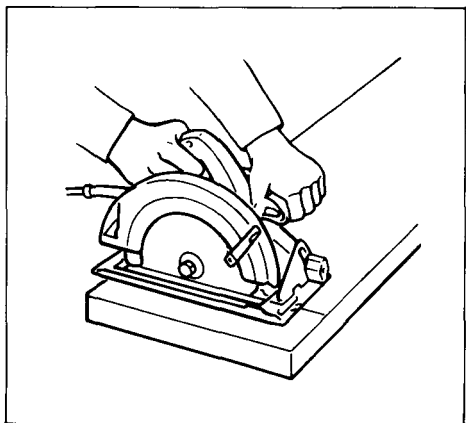
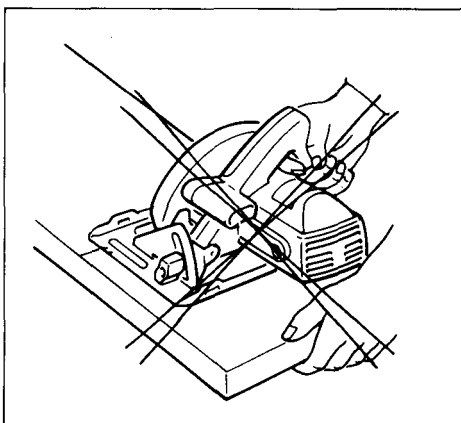

Fig. 5
Fig. 6
12. Place the wider portion of the saw base on that part of the workpiece which is solidly supported, not on the section that will fall off when the cut is made. As examples, Fig. 5 illustrates the **RIGHT** way to cut off the end of a board, and Fig. 6 the **WRONG** way. If the workpiece is short or small, clamp it down. **DON'T TRY TO HOLD SHORT PLECES BY HAND!**